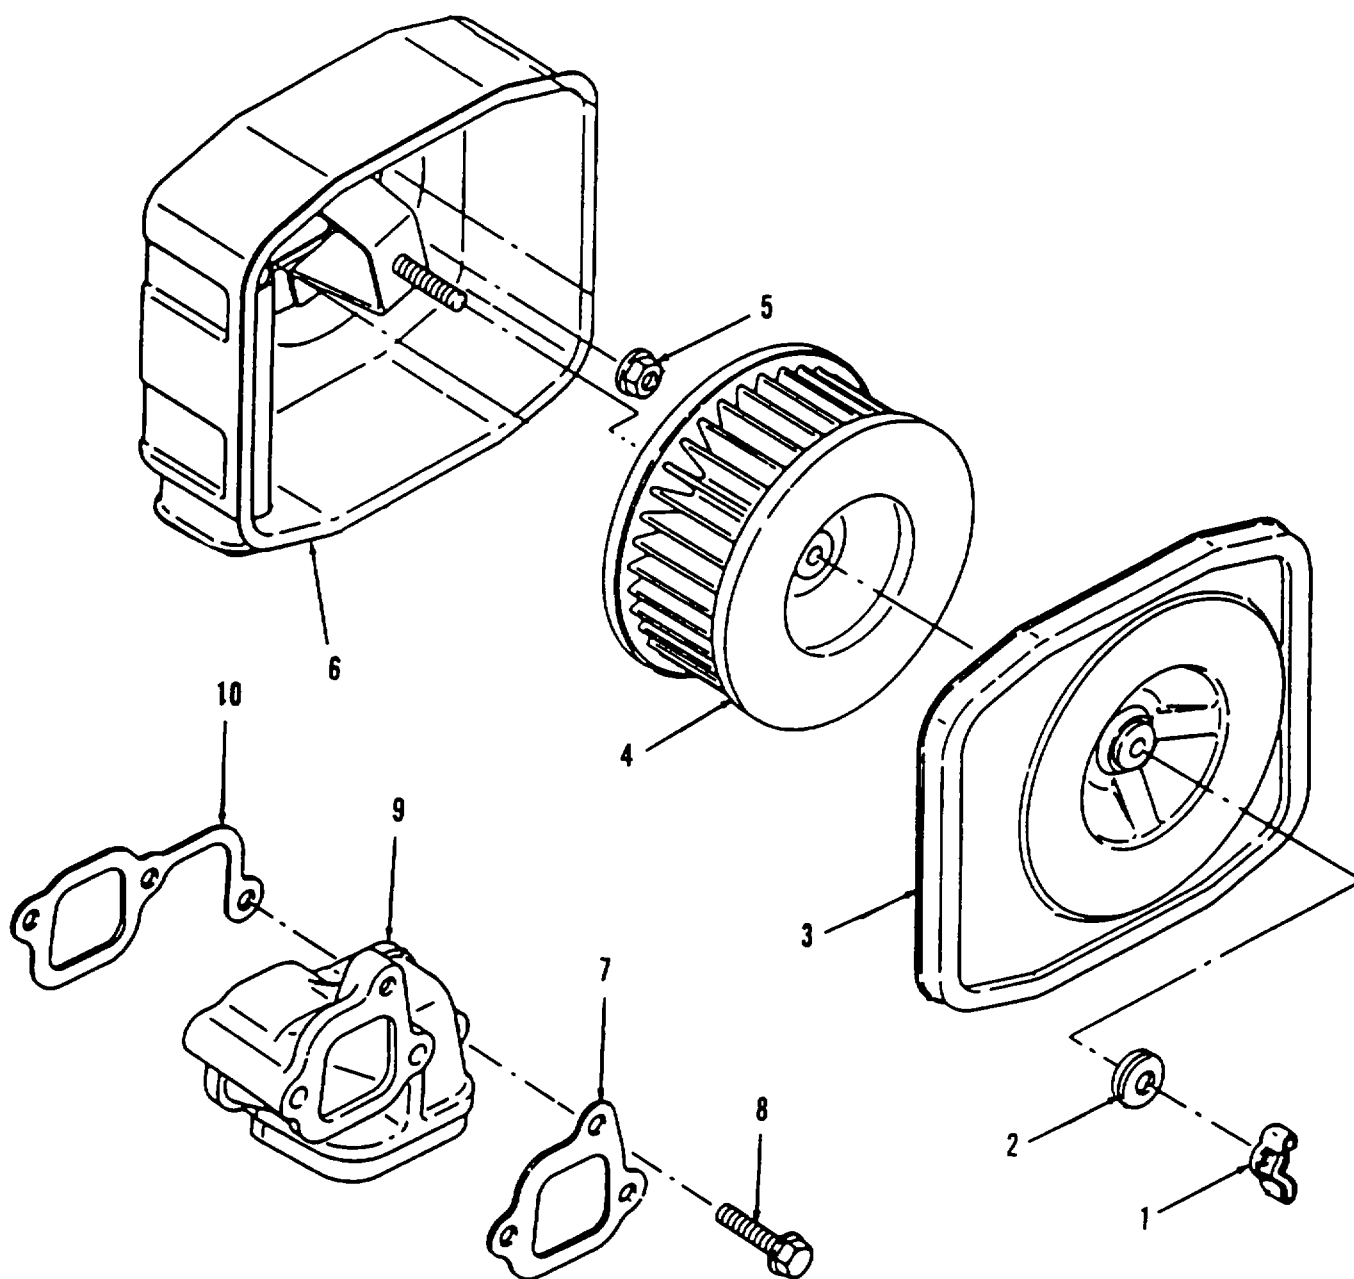

Figure 4-23. Air Cleaner, Filter Element, and Air Intake Pipe Repair and Replacement.
a. Removal (Refer to Figure 4-23).
- (1) Loosen and remove wing nut (1) and washer (2).
- (2) Remove air cleaner housing cover (3).
- (3) Remove air cleaner element (4).
- (4) Remove three hex nuts (5) securing the air cleaner housing (6).
- (5) Remove air cleaner housing (6). Discard gasket (7).
- (6) Remove hex bolt (8) and air intake pipe (9) and air intake gasket (10). Discard gasket (10).